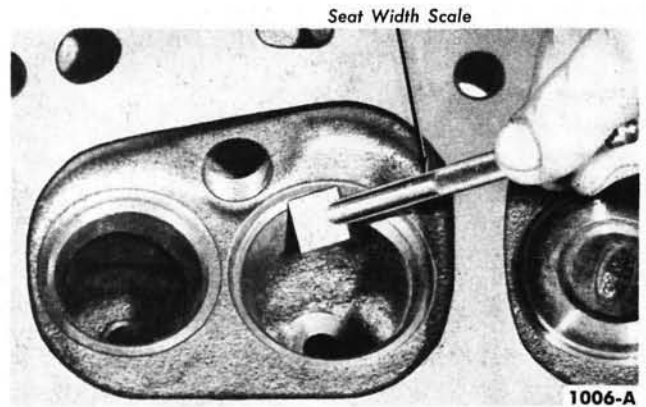
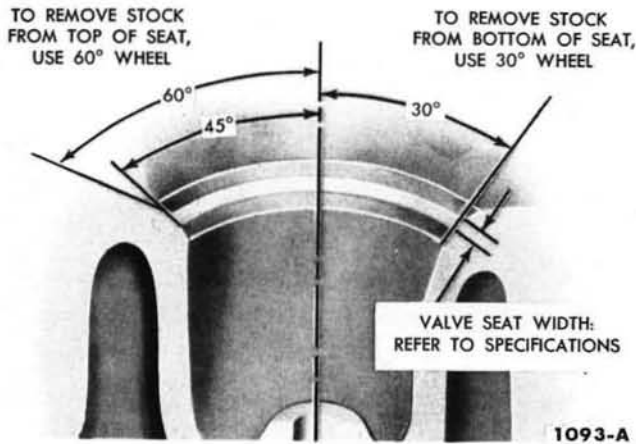

FIG. 6—Valve Seat Width—Typical
FIG. 8—Valve Seat Refacing—Typical
**Valve Seat Width.** Measure the valve seat width (Fig. 6). It should be within specified limits.
Grind the valve seat to a true 45° angle (Fig. 8). Remove only enough stock to clean up pits, grooves, or to correct the valve seat runout. After the seat is ground, measure the seat width (Fig. 6). Narrow the seat, if necessary to bring it within limits.
If the valve seat width exceeds the maximum limit, remove enough stock from the top edge and/or bottom edge of the seat to reduce the width to specifications (Fig. 8). Use a 30° angle grinding wheel to remove stock from the bottom of the seat (raise the seat). Use a 60° angle wheel to remove stock from the top of the seat (lower the seat).